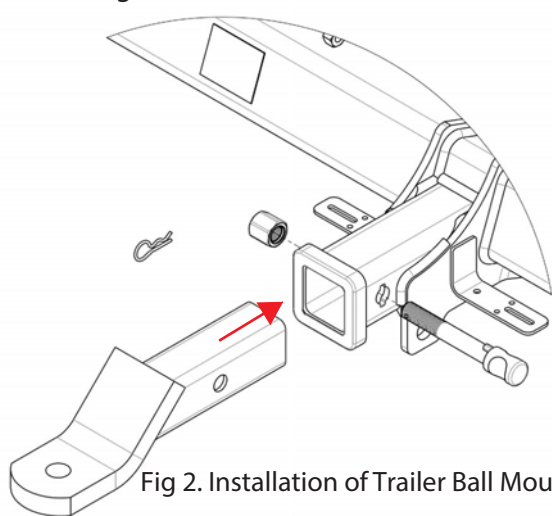

Fig 2. Installation of Trailer Ball Mount
**STEP 1** Insert Trailer Ball Mount (TBM) into towbar HITCHBOX, aligning hole in TBM SHANK with hole in HITCHBOX (Fig 2).